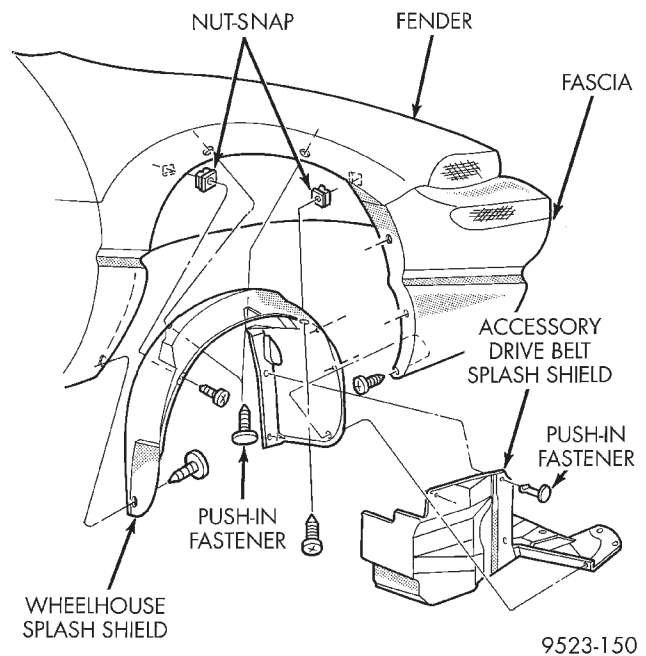
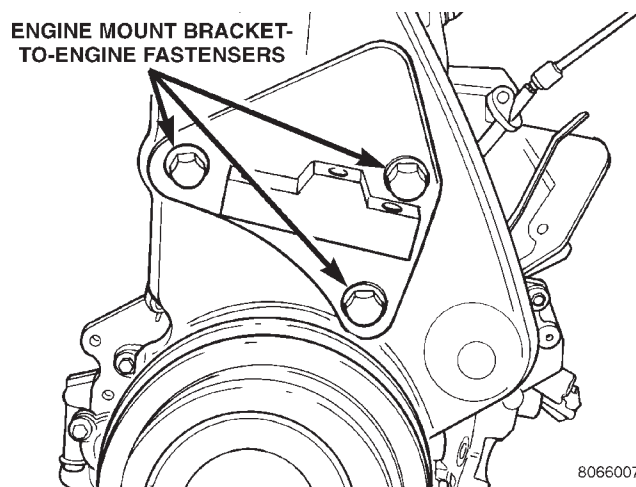

Fig. 47 Right Inner Splash Shield
Fig. 50 Right Engine Mount Bracket
(1) Remove accessory drive belts. Refer to Group 7, Cooling System for procedure outlined in that section.
(2) Raise vehicle on a hoist and remove right inner splash shield (Fig. 47).
(3) Remove crankshaft vibration damper. Refer to procedure outlined in this section for removal.
(4) Lower vehicle and place a jack under engine.
(5) Remove right engine mount. Refer to procedure outlined in this section.
(6) Remove right engine mount bracket (Fig. 50).